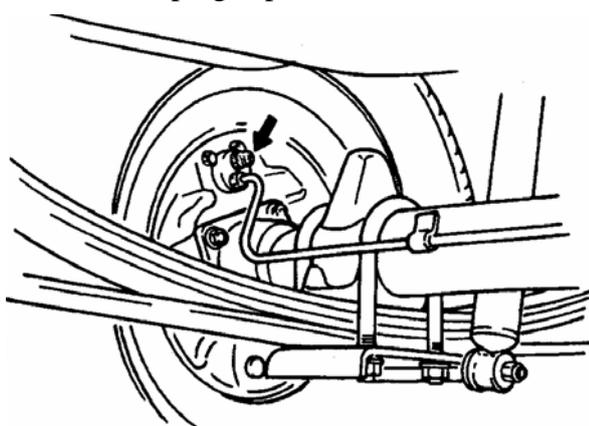

FIG16-76
- (5) Repeat this operation until there are no more air bubbles in hydraulic line.
- (6) When bubbles stop, depress and hold brake pedal and tighten bleeder plug. (TABLE16-11)。
- (7) Then attach bleeder plug cap. FIG16-76.